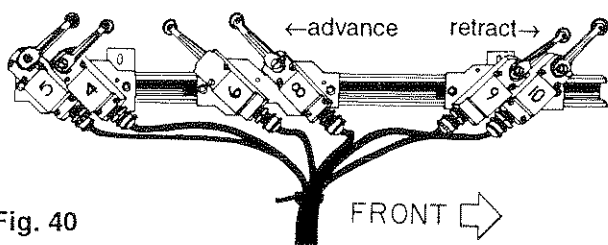

Fig. 40
6. Use stopwatch to accurately measure plunger return time. Return time should be 2.4 - 2.8 seconds with plunger stopping 1" from the fully retracted position. See **Fig. 40**.
13. **LS10** (Plunger Return Stop Switch) should be positioned so that the plunger stops 1" prior to its full retract position. To achieve the correct adjustment it will be necessary to reposition **LS9** and **LS10** on their mounting plates. See **Fig. 40**.